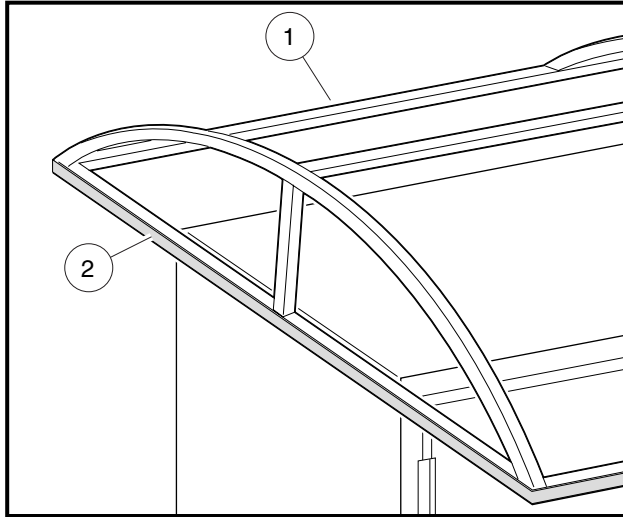

Figure 6 Velcro Installation
5. Making sure the surface is dry, clean and free of grease, apply velcro strip (2) all around the outside surface of the canopy frame (1) (**Figure 6**). Align the bottom edge of the velcro to the bottom edge of the tubing as shown.